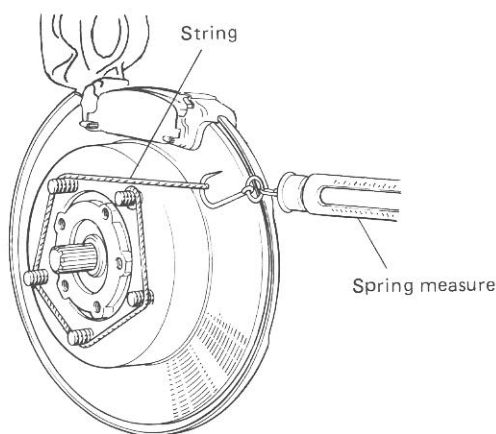

Fig. 17-15
- 3) Set a string and a spring measure to the stud bolt of the wheel hub as shown in Fig. 17-15.